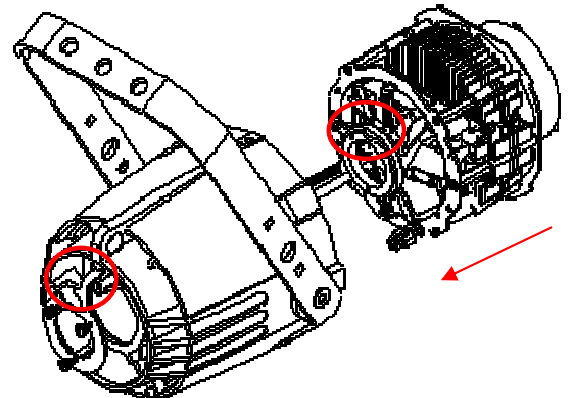

Fig.3
6. Accommodate the HPLED II C6 in the Source4 body. Ensure the correct inward direction is followed as remarked by the 2-red-round ring references. Make also sure to follow the red arrow direction as shown in figure 3. During such operation make sure that the 3 connecting cables (i.e. power cable, DMX cable and display cable) are not squeezed, while being lead through loop-holes during reassembling of the unit.